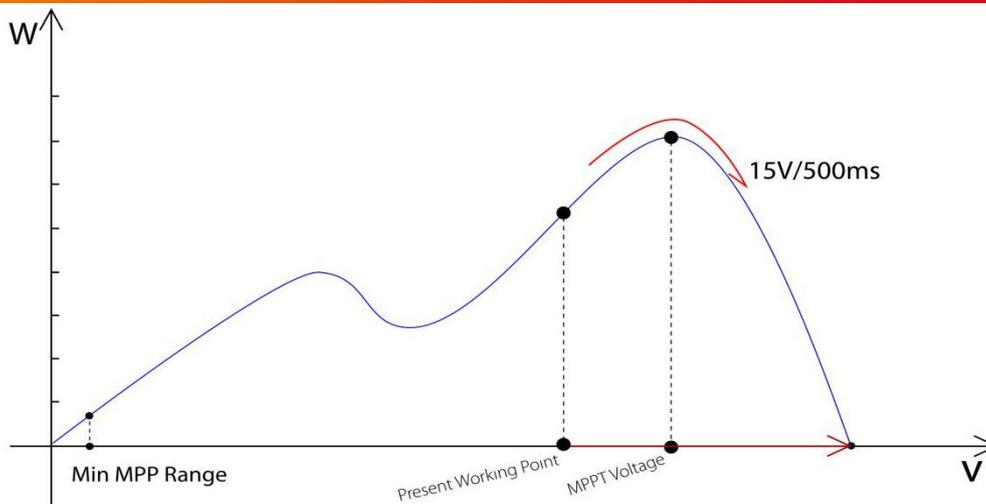

Fig 4. Ready for Scanning
* **FIRST STEP:** Ready for scanning (Fig 4)